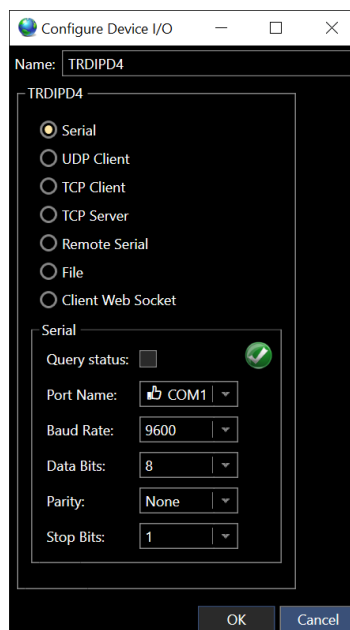

FIGURE 18-6 CONFIGURE I/O DEVICE WINDOW
- Click the  to add the device, this will open the Configure Device I/O window, see Figure 18-6.